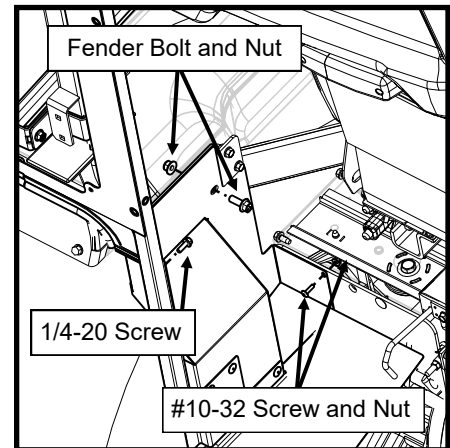

Figure 7.1: Left Rear Corner Filler
- 7.2 Install the left rear corner filler to the vehicle (see Figures 7.1 and 7.2). Tighten the two 1/4-20 screws and leave the remaining hardware loose.